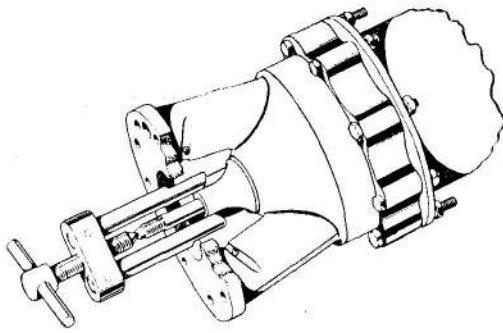

Fig. 4. Extraction of vapour assister
10. Remove the vapour assister with the extractor (Stores Ref. 5UE/5124) as shown in fig. 4. When this has been done, the joint washer behind the assister may be removed. In instances where the condition of the vapour assister is not satisfactory, reference should be made to para. 13.